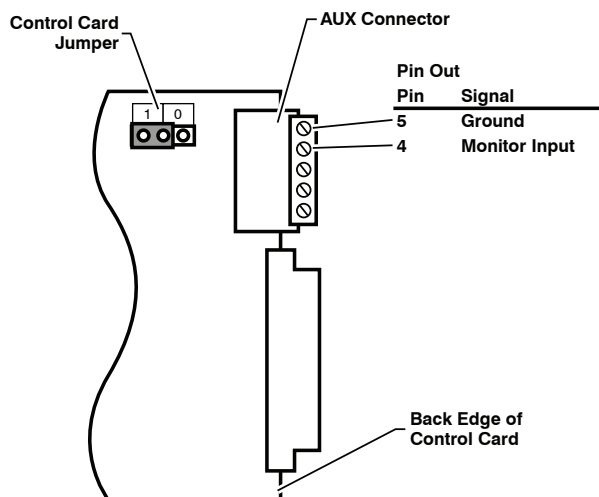

Figure 4.5: Control Module AUX Connector - Monitor Input and Ground
4. **Connect Monitor Input:** Connect the signal line that you wish to monitor to Pin 4 (Monitor Input) on the Control Module AUX Connector as shown in Figure 4.5.
4. **Connect Monitor Input:** Connect the signal line that you wish to monitor to Pin 4 (Monitor Input) on the Control Module AUX Connector as shown in Figure 4.5. Connect your ground line to the Ground Connector (Pin 5).